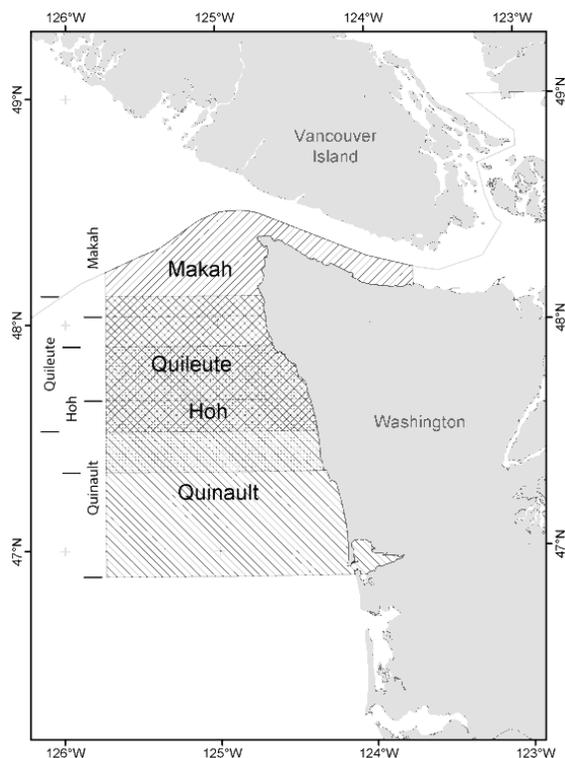

Figure 1 Tribal Usual & Accustomed Areas
The allocation for this sector is set aside as a fraction of the coast-wide optimum yield (OY). All hake fishing for the tribes takes place in each tribe's Usual and Accustomed Areas (UAA) located in northern Washington waters. Figure 1 shows the boundaries for the four tribe's UAAs. The Makah area extends north of the area illustrated here, but is shown within